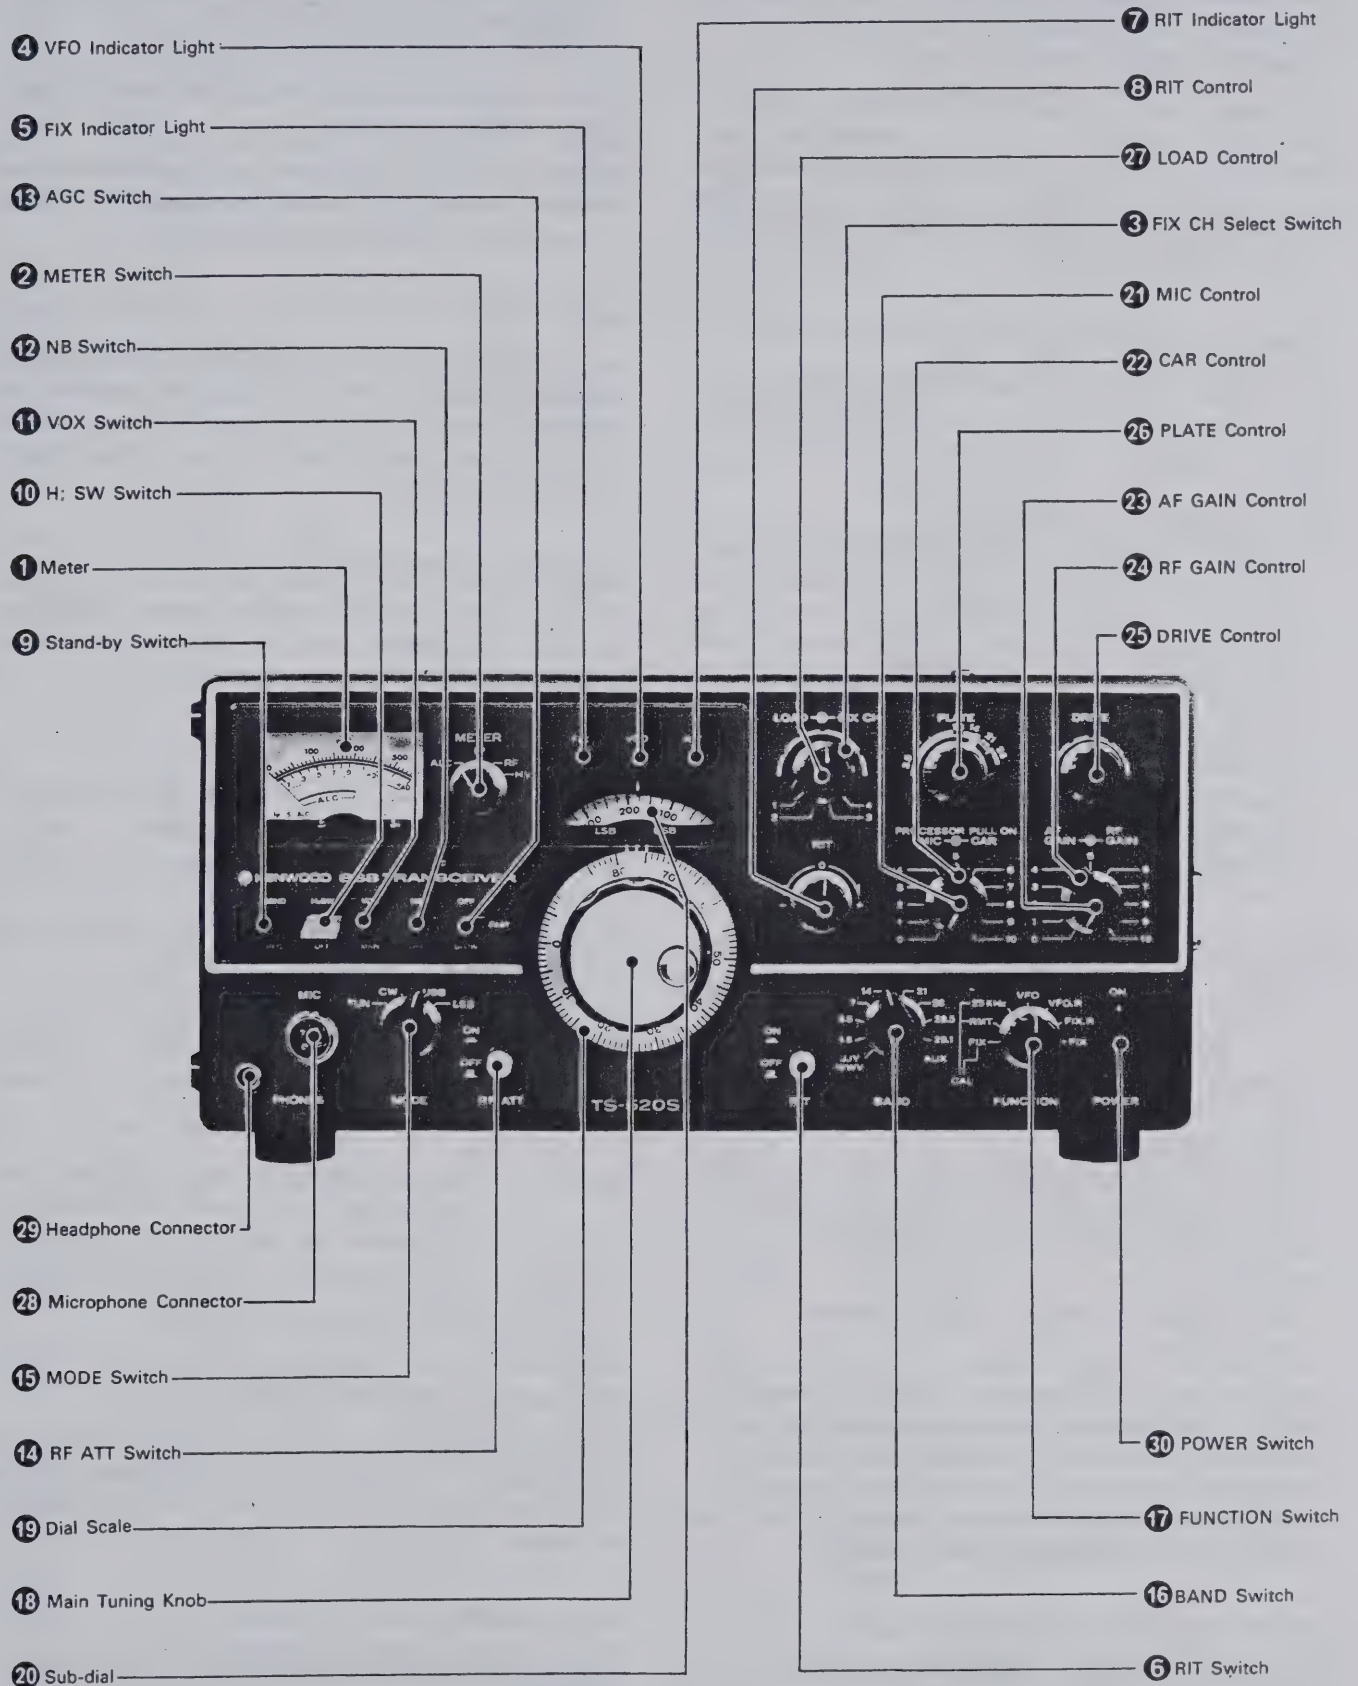

Fig. 5 Front Panel Controls
3.1 FRONT PANEL CONTROLS (See Figure 5)
■ METER (❶ on Figure 5)
■ METER SWITCH (❷ on Figure 5)
■ CH. (FIXED CHANNEL) SELECT SWITCH (❸ on Figure 5)
■ VFO INDICATOR LIGHT (❹ on Figure 5)
■ FIX (FIXED CHANNEL OPERATION) INDICATOR LIGHT (❺ on Figure 5)
■ RIT SWITCH (❻ on Figure 5)
■ RIT INDICATOR (❼ on Figure 5)
■ RIT CONTROL (❽ on Figure 5)
■ STAND-BY SWITCH (❾ on Figure 5)
■ H. SW (Heater) SWITCH (❿ on Figure 5)
■ VOX SWITCH (⓫ on Figure 5)
■ **NB SWITCH** (12 on Figure 5)
■ **AGC SWITCH** (13 on Figure 5)
■ **RF ATT SWITCH** (14 on Figure 5)
■ **MODE SWITCH** (15 on Figure 5)
■ **BAND SWITCH** (16 on Figure 5)
■ **FUNCTION SWITCH** (17 on Figure 5)
■ MAIN TUNING KNOB (18 on Figure 5)
■ DIAL SCALE (19 on Figure 5)
■ SUB-DIAL (20 on Figure 5)
■ MIC CONTROL (PROCESSOR PULL ON) (21 on Figure 5)
■ CAR CONTROL (22 on Figure 5)
■ AF GAIN CONTROL (23 on Figure 5)
■ RF GAIN CONTROL (24 on Figure 5)
■ DRIVE CONTROL (25 on Figure 5)
■ PLATE CONTROL (26 on Figure 5)
■ LOAD CONTROL (27 on Figure 5)
■ MIC CONNECTOR (28 on Figure 5)
■ PHONES JACK (29 on Figure 5)